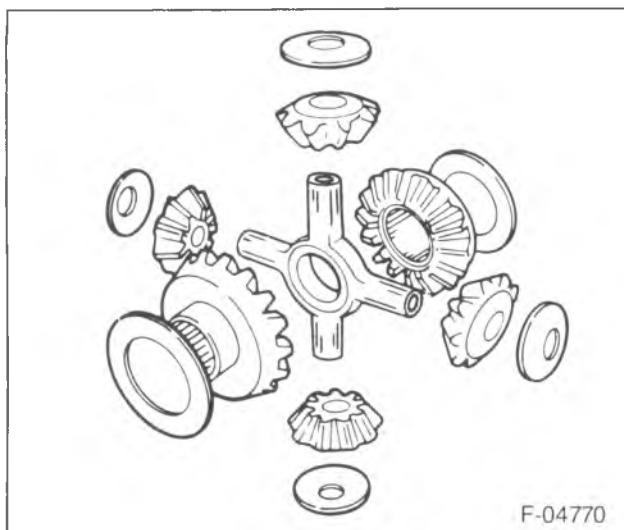

Figure 20—Differential Components
- Measure the pinion bearing shims (50). If a new pinion and ring gear set is installed, the pinion bearing shim pack must be adjusted.
- Examine the heads of the new and old drive pinions. Compare these codes, and adjust the pinion bearing shim pack accordingly. The chart in figure 20, shows the proper adjustment to be made to the shim pack.
- 1. Pinion bearing shims (50) to the pinion cage.
- 2. The pinion cage (54) to the axle housing.